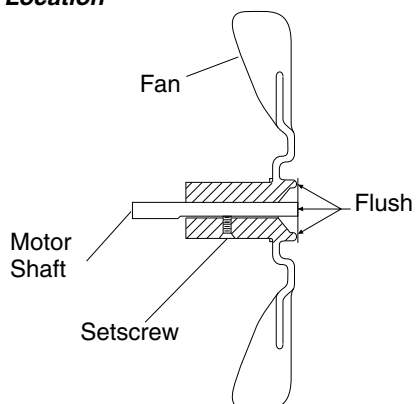

Figure 30 - Fan Cross Section
6. Replace fan on motor shaft. Place fan hub flush with end of motor shaft (see Figure 30).